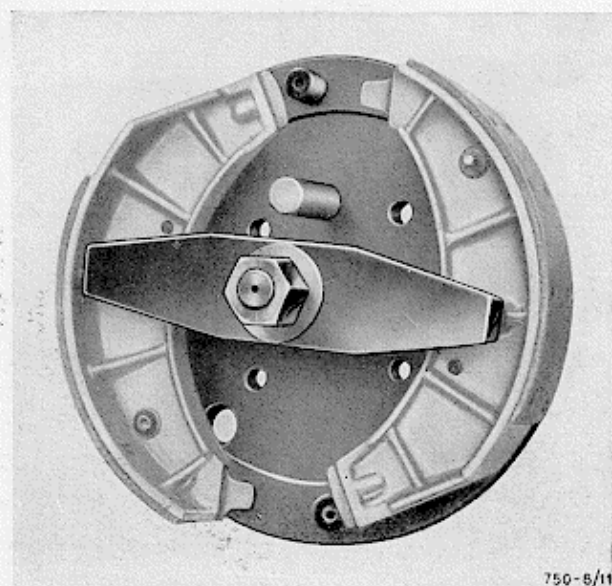

Fig. 11 - Front-wheel brake-shoe mounted on tool No. 6112.01.330 for re-grinding
- a) It is absolutely necessary to re-grind the linings in order to bring them to the dimensions shown in the illustration. This re-grinding must be performed after placing the front-wheel brake shoes on tool No. 6112.01.330 (Fig. 11) and the rear-wheel shoes on tool No. 6112.01.323.